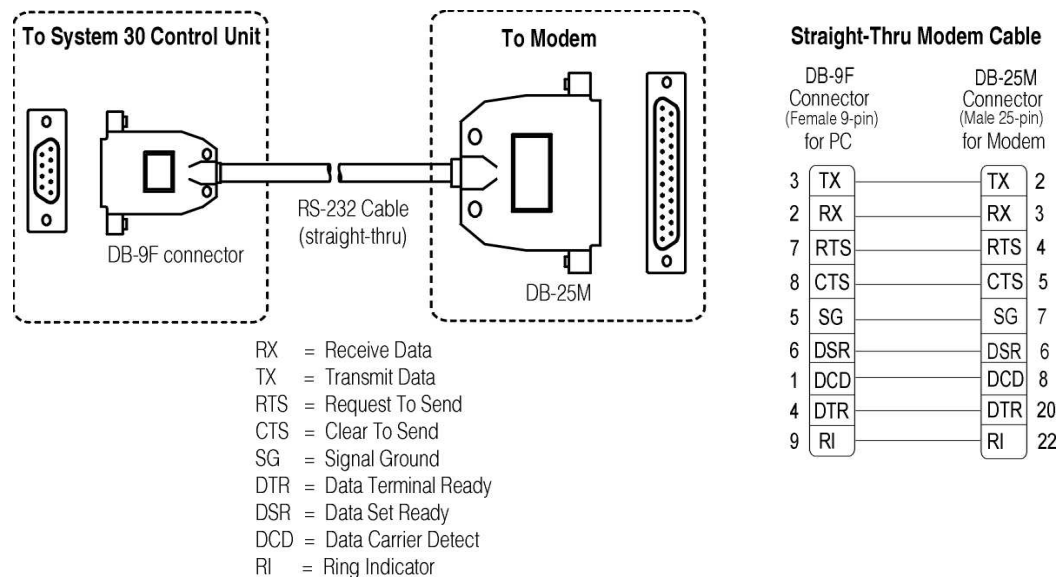

Figure 8. RS-232 cable pin connections (System 30 Timer to an External Modem)
An RS-232 serial interface cable must be used to connect the System 30 Timer to the modem. It must have a standard 9-pin female "D" connector at the timer end, and a 25-pin male "D" connector at the modem end, as shown in Figure 8.
- ! Pin connections for the cable wires must be as shown in Figure 8.